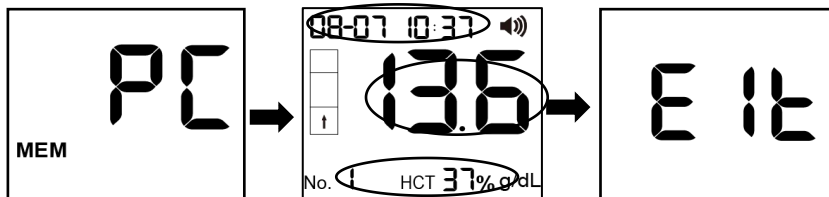

Fig. 20
- Press ⏻ button to enter this mode. (Ref Fig. 20)